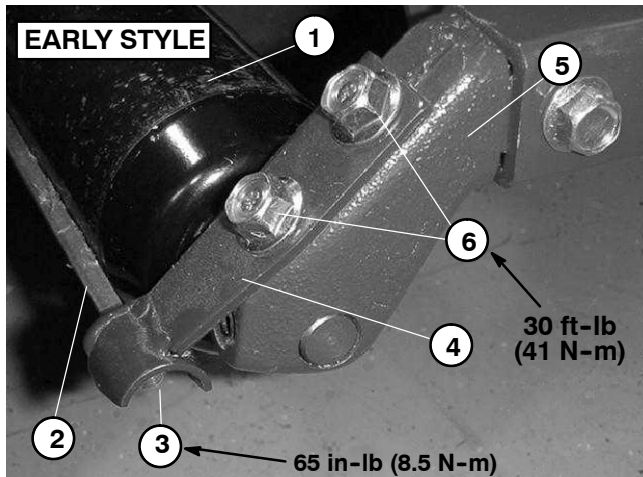

Figure 3
1. On scraper rods equipped with lock nuts (Fig. 3), loosen lock nut securing one end of scraper rod to mounting bracket. For proper roller scraper adjustment, there should be approximately .005 to .020 inch (.13 to .51 mm) end play in loosened rod.
5. On scraper rods equipped with lock nuts (Fig. 3), tighten scraper rod lock nut to 65 in-lb (8.5 N-m).
**NOTE:** On scraper rods equipped with lock nuts (Fig. 3), if one side of scraper rod becomes worn, it can be rotated in the mounting brackets 180 degrees for a new edge.